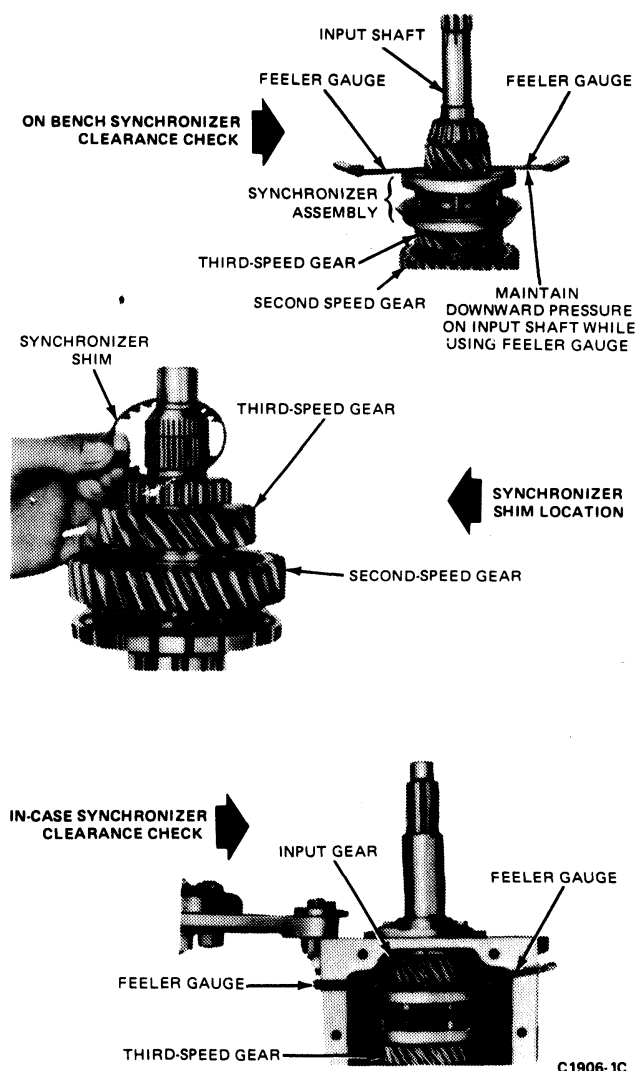

FIG. 9 Measuring Input Shaft-To-Synchronizer Clearance
1. Place the input shaft, third/fourth speed synchronizer assembly clutch gear and thrust bearing on the output shaft and secure the complete assembly in a vise as shown in Fig. 9.